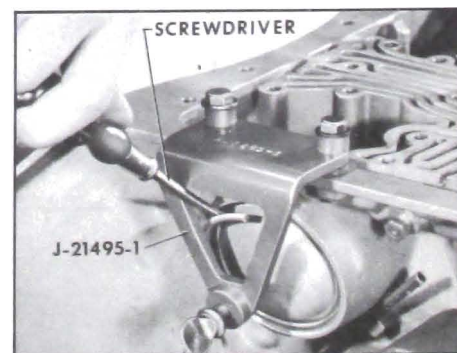

Figure 5-123
2. Remove low servo cover snap ring. Use tool J-21495-1 to compress servo cover so snap ring can be removed. See Figure 5-123.